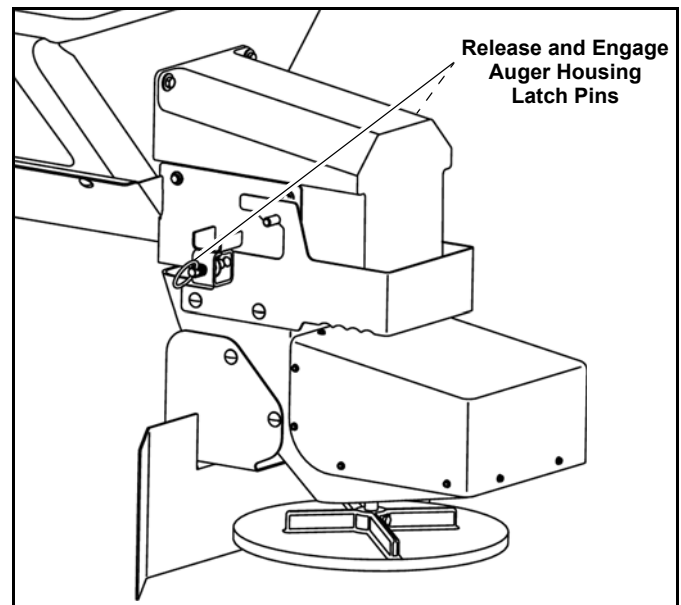

Figure 1-16
2. As the lower anchor holes align with the auger motor housing pins, pull each pin out and rotate clockwise to disengage the detent. Rotate each pin slightly as it engages the lower anchor holes on the chute spinner assembly. (See Figure 1-16)